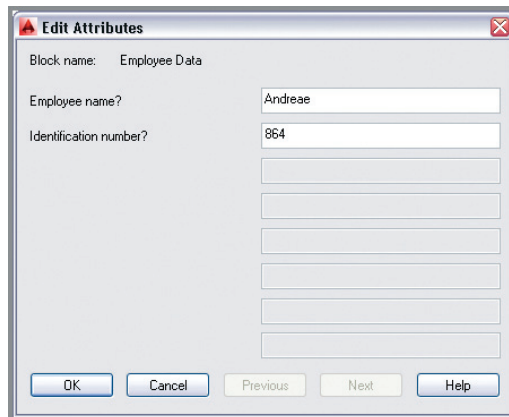

FIGURE 15.14 Entering values in the Edit Attributes dialog box
6. Type **I** (for Insert), and press Enter twice. Click a point in the center of the room on the left. Type **Andreae** as the employee name, press Tab, and type **864** as the identification number in the Edit Attributes dialog box (see Figure 15.14). Click OK.